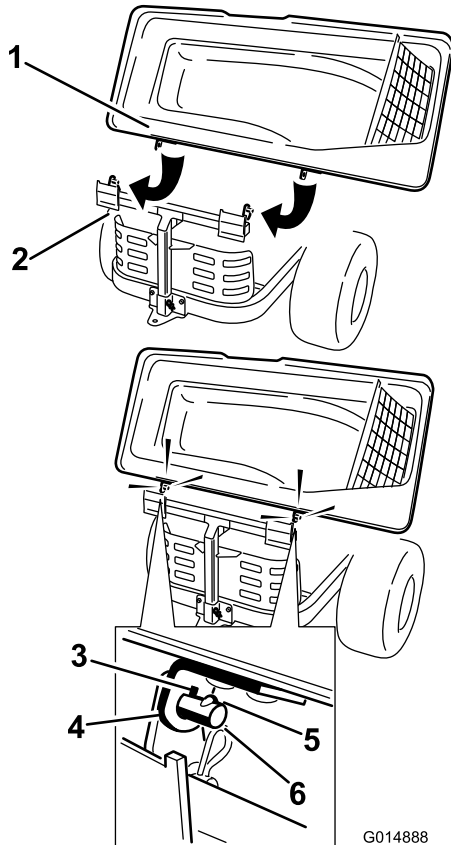

Figure 21
2. Rotate the bagger top to align the key holes in the bagger top brackets with the keys in the posts on the bagger frame (Figure 21).